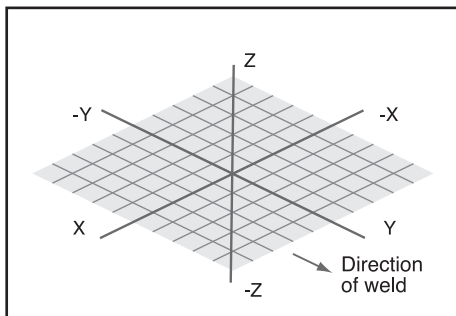

FIG.21
9.8 DIRECTION OF WELD - FIG. 21